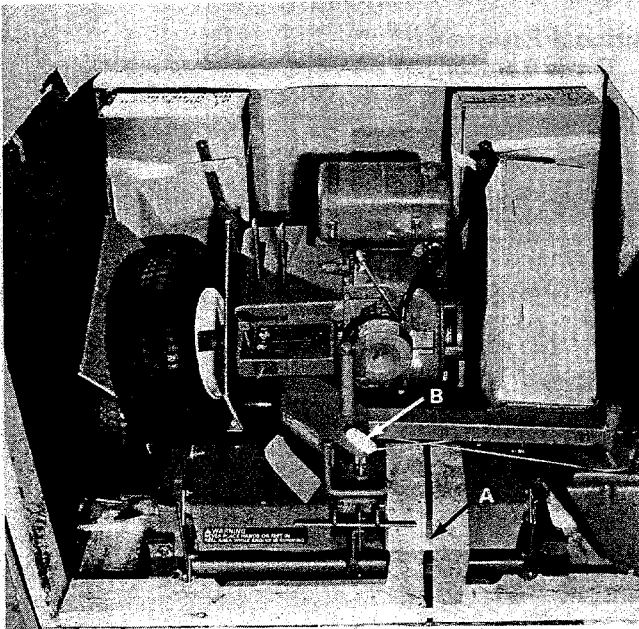

Figure 1
2. Remove side of crate, then the top and one side support board at rear of machine (Fig. 1).
3. Clip the bands "A" securing the front and rear of machine to pallet, remove the stud and handle assembly "B" from the frame (Fig. 1).